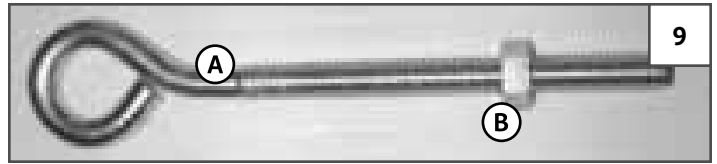

FIGURE 9: THREADING HEX NUT ONTO EYEBOLT
1. Spin a **1/4" HEX NUT (B)** onto each **EYEBOLT (A)**. See Figure 9.